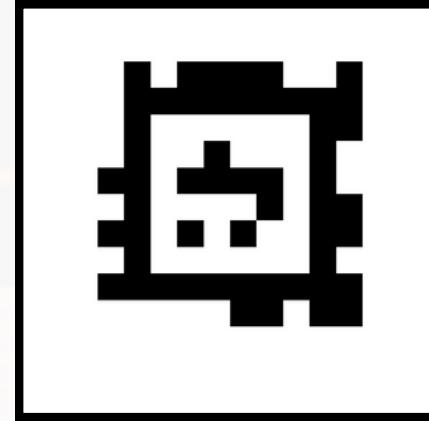

Figure 6 - sample April-tag
- All AprilTags used in the competition will follow the **tagStandard52h13** family. (Figure 6)